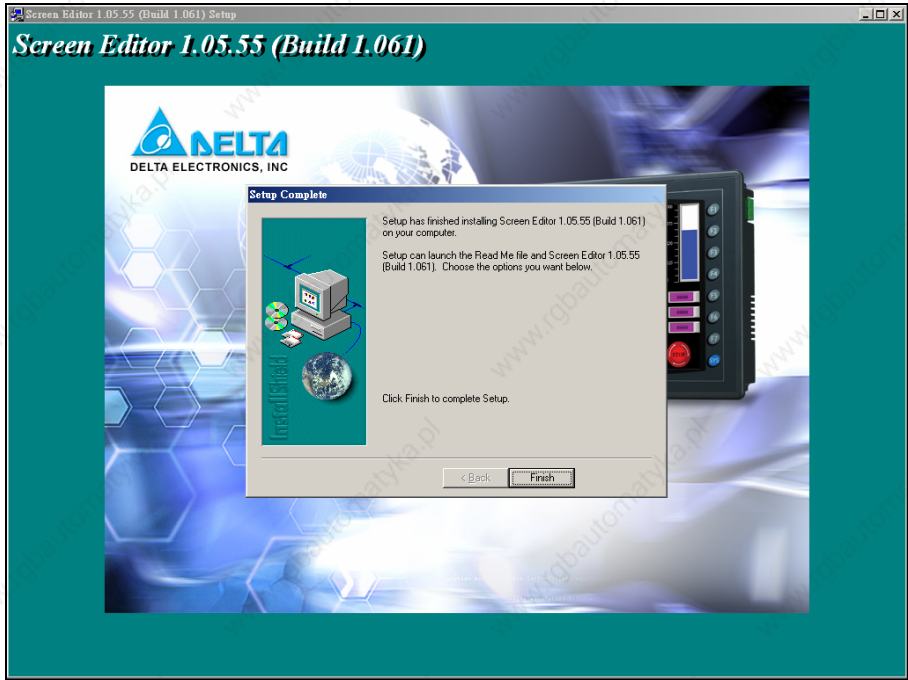

Fig. 2.1.6 Finish installing ScrEdit
- Step 5: This dialog box displays the progress of copying files while the Setup program copies all necessary files into the designated directory. (Fig. 2.1.5, Fig. 2.1.6)